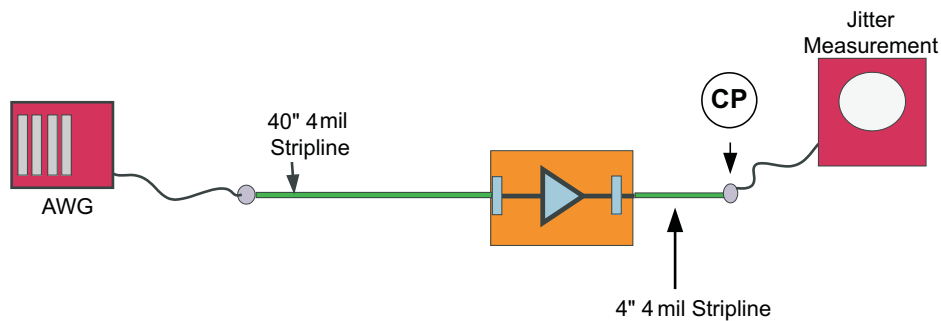

Figure 6. Jitter Measurement Test Condition
- (1) $T_J = (14.1 \times RJ_{SD} + DJ)$ where RJ_{SD} is one standard deviation value of RJ Gaussian distribution. Jitter measurement is at the CP connector and includes jitter generated at the package connection on the printed circuit board, and at the board interconnect as shown in Figure 6.